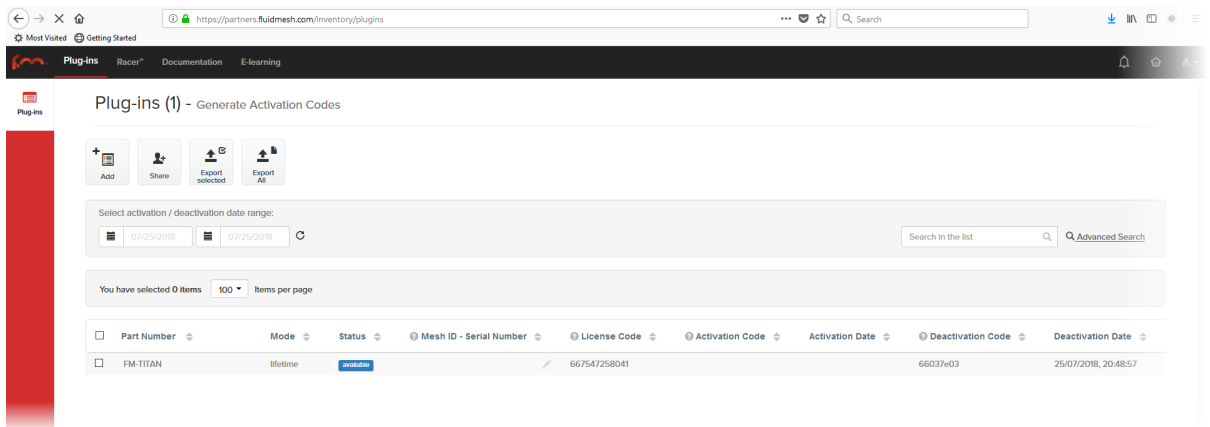

Figure 70. Partner Portal (Plug-ins web page)
- The Plug-ins web page will be shown (Figure 70 \(page 151\)).